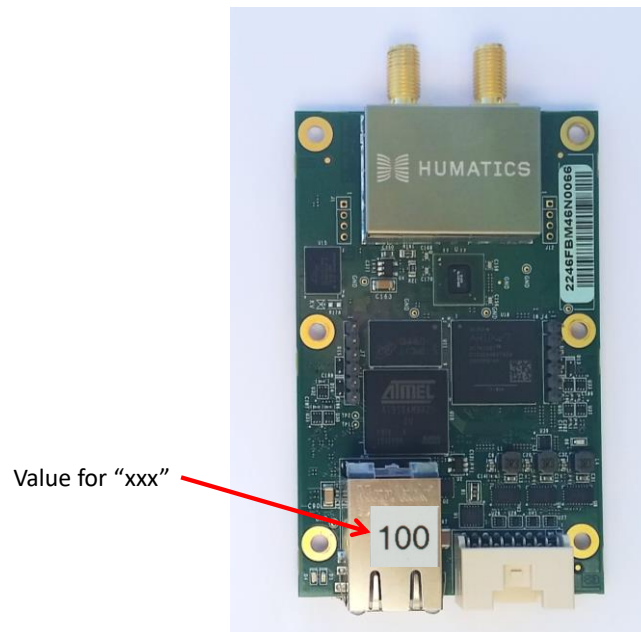

Fig. A-1: Last 3 digits of IP address of a Kit or Lab P440 can be found on the Ethernet connector
Determining P4xx configuration: The P440s are delivered either as (1) Development Kits and Labs or (2) as individual modules. In the first case, the units will be configured with a static IP of 192.168.1.xxx where the value for “xxx” can be found on a label printed on the Ethernet connector. See **Figure A-1** below.